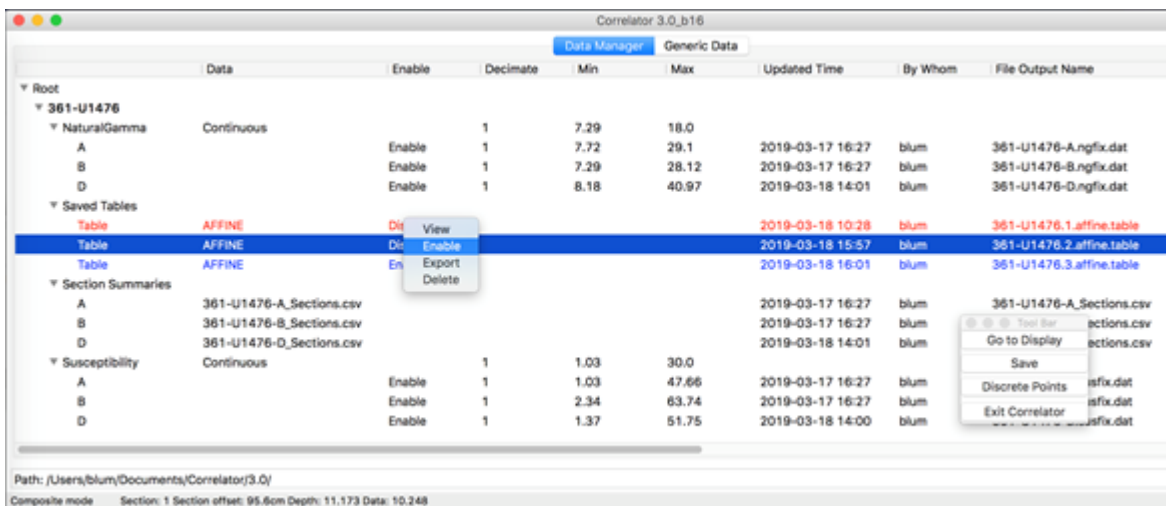

Figure 3-54. Saved affine tables are listed in the Data Manager. Only one can be enabled at any one time. Enabling a disabled one will disable the enabled one.
- Click Go to Data Manager on the Tool Bar and open the saved tables tree (Fig. 3-54).
To export your final affine table (i.e., to load it into the LIMS database), use the Export option on the context menu (Fig. 3-54).